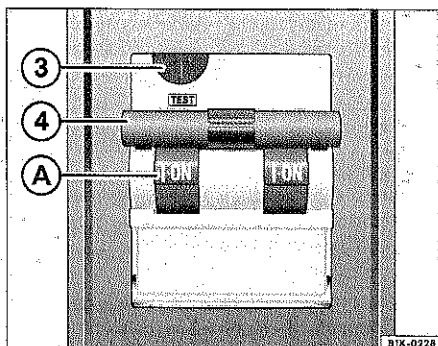

Fig. 49 Engine preheater protective switch.
- Press the ⇒ fig. 49 ③ (TEST) button until the protective switch is activated. 0-OFF appears in the display ④. The protective switch is not operational.
- Pull the lever ④ up until it engages. I-ON appears in the display ④. The protective switch is functional.